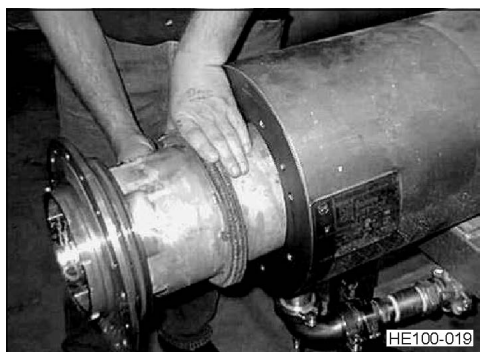

Figure 49 - Tube Removal
8. Pull the tube out of the jacket. Take care to avoid marring the jacket cylinder during heat transfer tube removal. Mark the tube and jacket so that the tube can be reinstalled in the same jacket. See Figure 49. On liquid units, install a new packing ring.